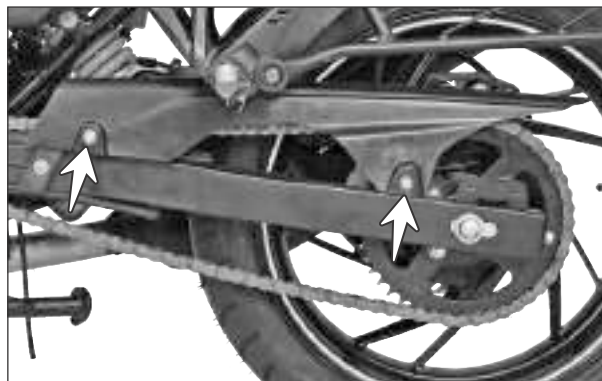

Fig. 2.97 Fig.
- Remove the hexagonal bolts (M6x12 - 2 nos.) along with the washers from the chain guard. (Fig. 2.97)